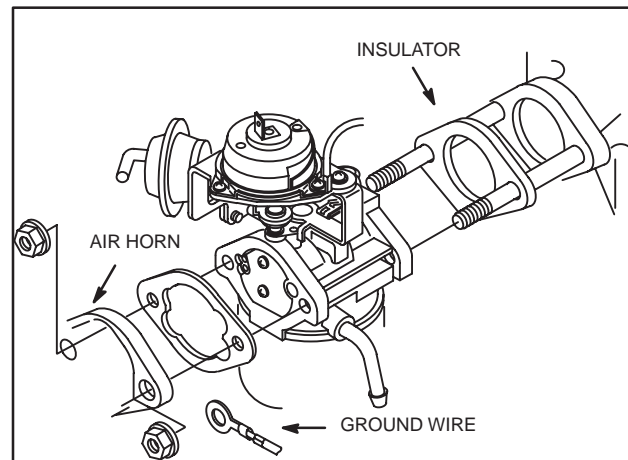

Fig. 27 – Removing Carburetor
2. Remove two nuts and ground wire from solenoid, air horn, carburetor and insulator, Fig. 27. Discard gaskets.